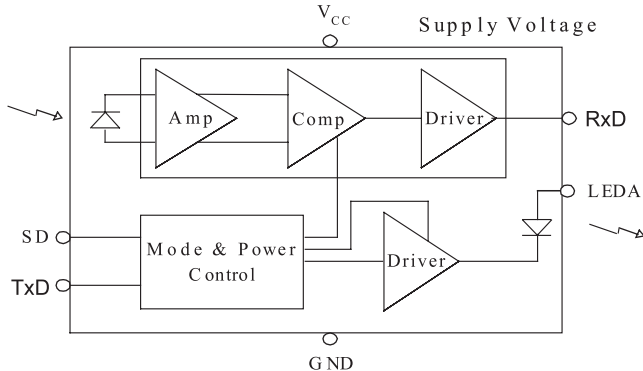

Figure 2. ZHX1203 Block Diagram
- Figure 2. ZHX1203 Block Diagram 1
The transceiver combines an IRED emitter, a photodiode, and a unique driver/control ASIC in a single package, as shown in Figure 2. The ZILOG ZHX1203 also features a shutdown control that minimizes current draw to 0.1 μA typical.